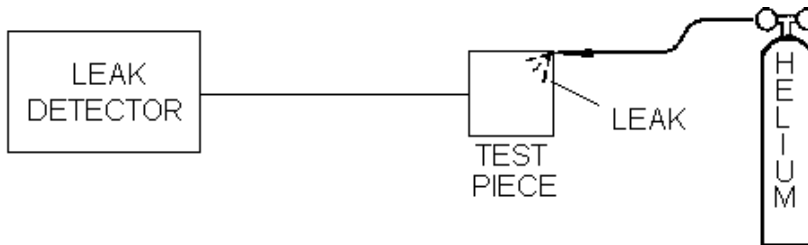
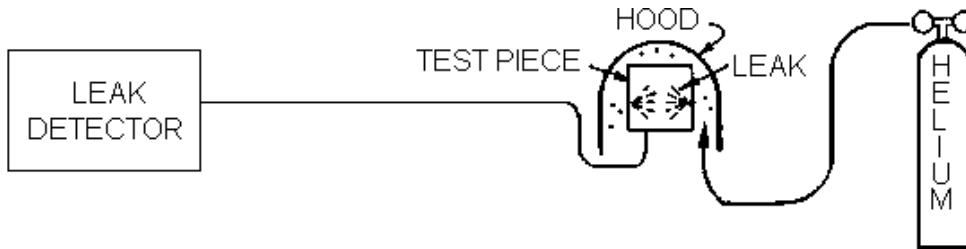

Figure 1-1a Test Piece Evacuated: Tracer Probe Used to Locate Leak
Figure 1-1b Test Piece Evacuated and Hooded with Helium Atmosphere to Determine Overall Leak Rate
1.6.1 Test Piece Evacuated (Figure 1-1a and Figure 1-1b)